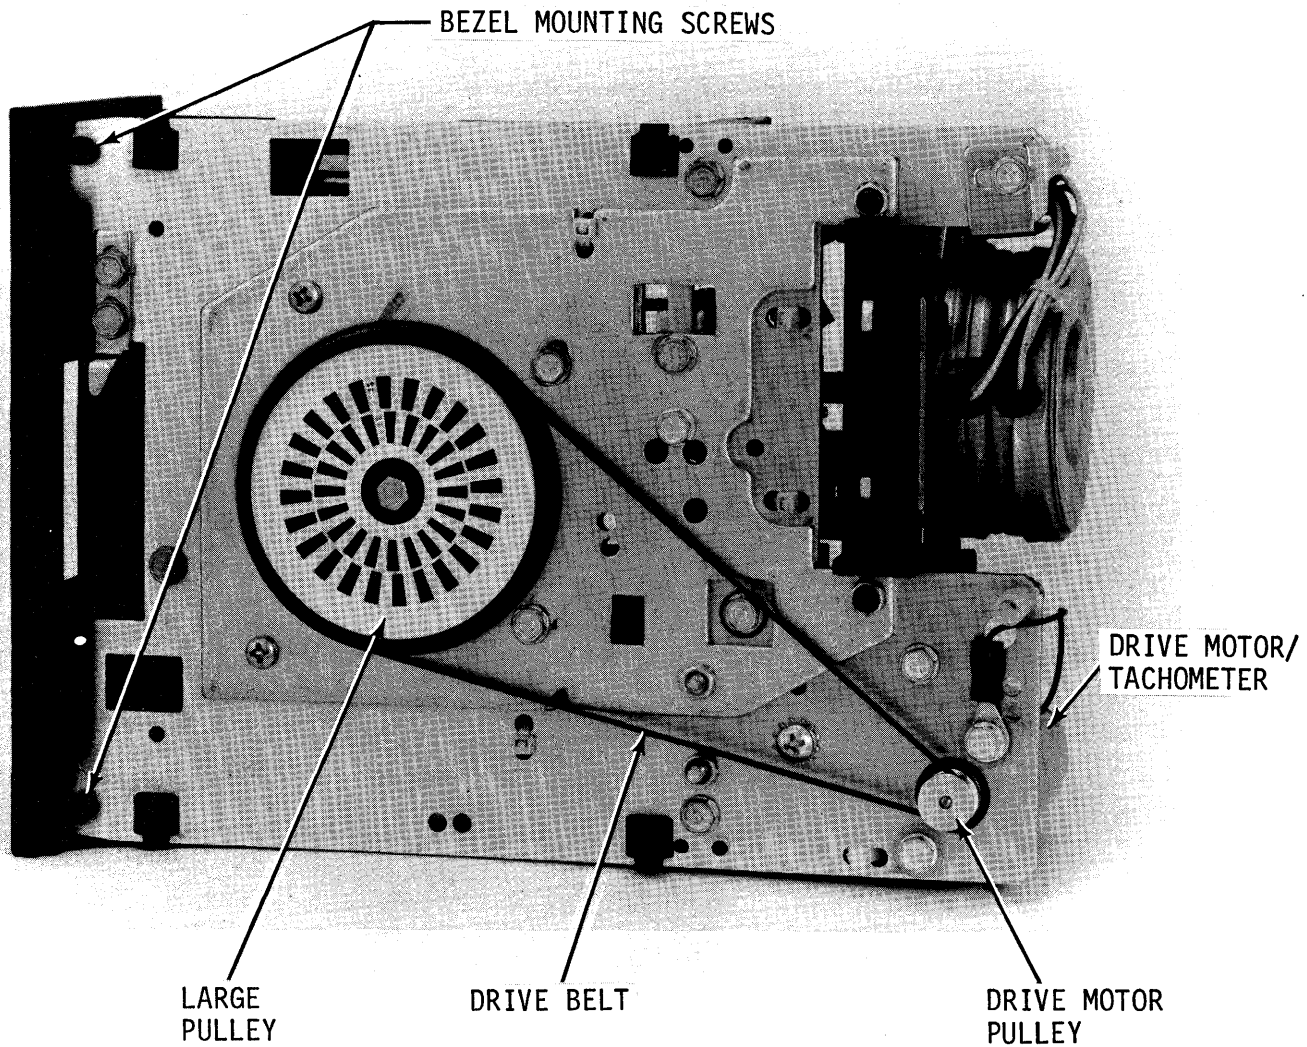

Figure 6-3. Drive Motor and Belt Details
- a. Slip the drive belt off the large pulley (with the strobe disk) and remove it from the drive motor pulley (see figure 6-3). Retain the belt if it is acceptable for reuse. Note which surface of the belt is in contact with the pulleys. If the drive belt is to be replaced and the existing drive motor is acceptable, proceed directly to step i.